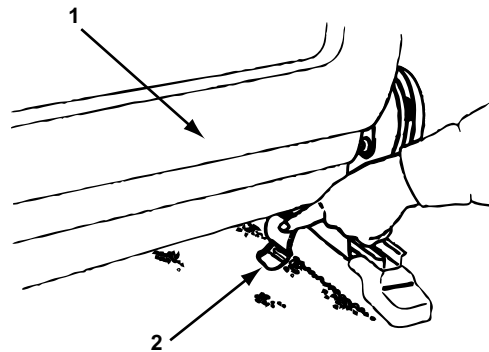

Figure 15-49 1990-92 Legacy and 1992-97 SVX ABS LED location
- 1990–1992 Legacy/Outback, Sedan and Wagon (Figure 15-49)
- 1992–1997 SVX (Figure 15-49)
5. The LED is located under the right-front seat (Figure 15-49). See “Subaru Code Type 08 (Straight Count)” on page 210 for reading codes from the flashing LED.